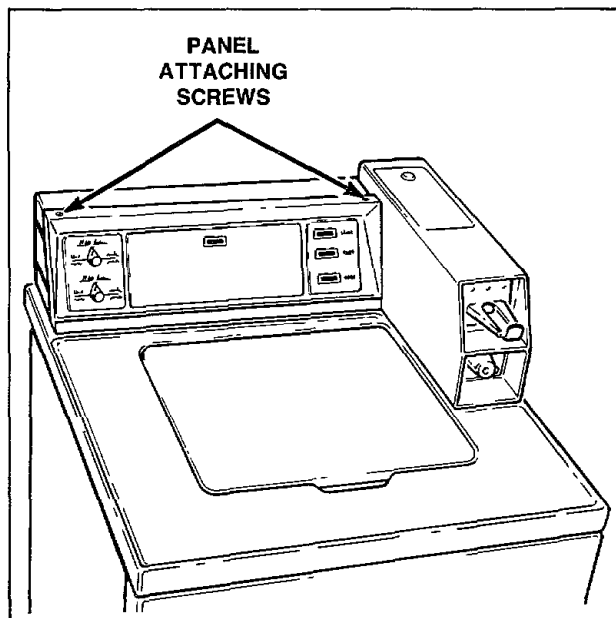

Figure 1
1. CONTROL PANEL (Refer to Figure 1)
- d. Remove two control panel attaching screws, *Figure 1*, and lift assembly off panel support.
- b. Remove two control panel attaching screws and lift assembly off panel support, *Figure 1*.